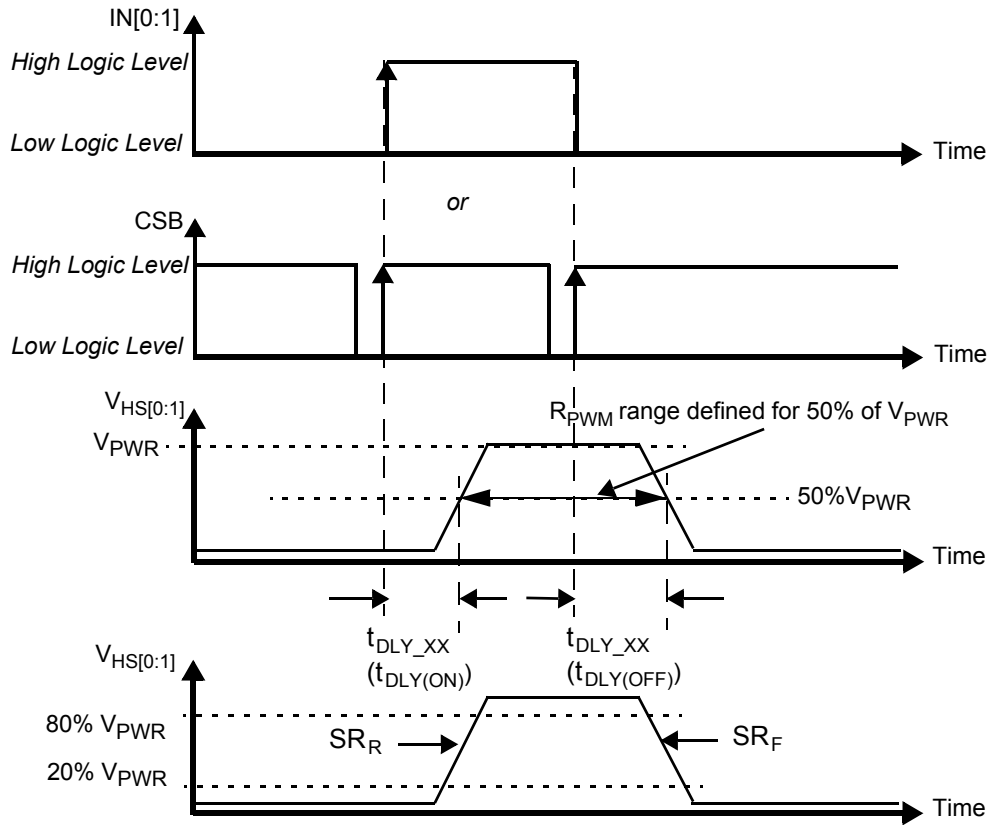
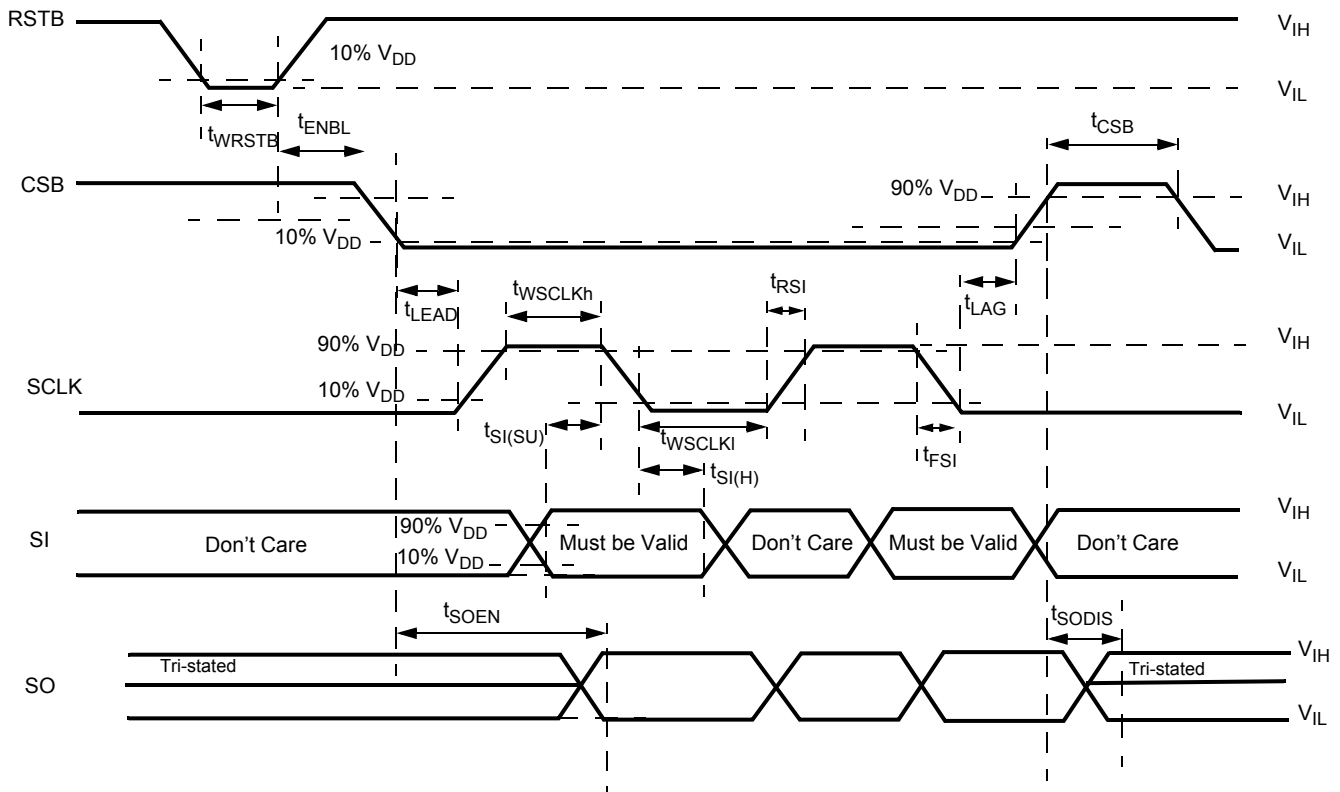
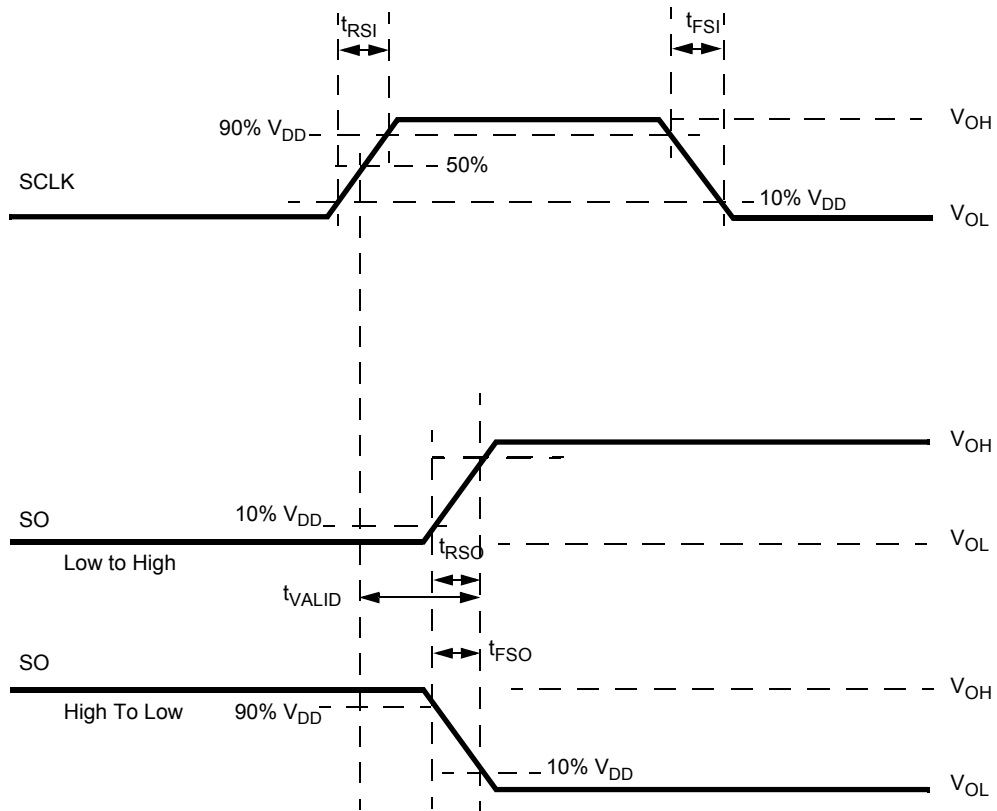

Figure 4. Output Voltage Slew Rate and Delay
Figure 7. Timing Requirements During SPI Communication
Figure 8. Timing Diagram for Serial Output (SO) Data Communication
- Rising and Falling edge slew rates specified for a 20% to 80% voltage variation on a 10.0 Ω resistive load (see Figure 4).
- Time required to switch off the channel after detection of over-temperature (OT), over-current (OC), SC or UV error (time measured between start of the negative edge on the FSB pin and the falling edge on the output voltage until $V(\text{HS}[0:1]) = 50\%$ of V_{PWR}).
- Settling time ($= t_{CSNSVAL_XX}$), SYNC output signal delay ($= t_{SYNCVAL_XX}$) and Read-out delay ($= t_{SYNREAD_XX}$) are defined for a stepped load current ($100\text{ mA} < I(\text{LOAD}) < I(\text{OCLX A FOR CSNS_RATIO_S} = 1, \text{ AND } 300\text{ mA} < I(\text{LOAD}) < I(\text{OCLX A}_0 \text{ FOR CSNS_RATIO_S} = 0)$). (see Figure 8 and Output Current Monitoring \(CSNS\)).
edge of CSB. The SO output driver is enabled when CSB is logic [0]. CSB should transition from a logic [1] to a logic [0] state only when SCLK is at logic [0] (Figure 7 and Figure 8). CSB is internally pulled up to V_{DD} through I_{UP} .
Serial input (SI) data bits are shifted in at this pin. SI data is read on the falling edge of SCLK. 16-bit data packages are required on the SI pin (see Figure 7), starting with bit D15 (MSB) and ending with D0 (LSB). All the internal device registers are addressed and controlled by a 4-bit address (D9-D12) described in Table 10. Register addresses and function attribution are described in Table 11. The SI pin is internally connected to a pull-down current source, I_{DWN} .